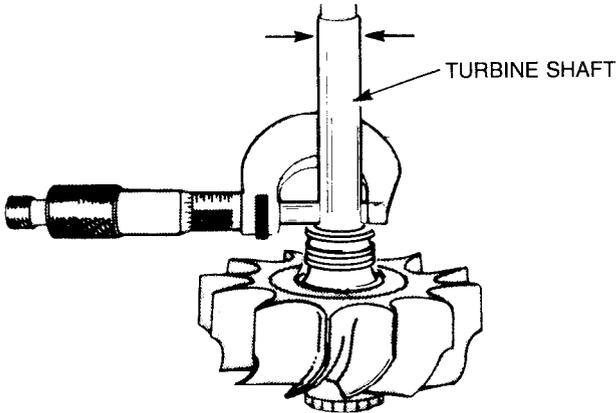

Figure 143 — Measuring Turbine Shaft Bearing Journals
- m. Remove the retaining ring (item 9) from the bearing housing (item 14).
- d. Using an outside micrometer, measure the turbine shaft bearing journals (see Fig. 143). The standard journal measurements are 14.254-14.262 mm (0.5612-0.5615 in.), replace the turbine wheel and shaft if the dimension is less than 14.252 mm (0.5611 in.).